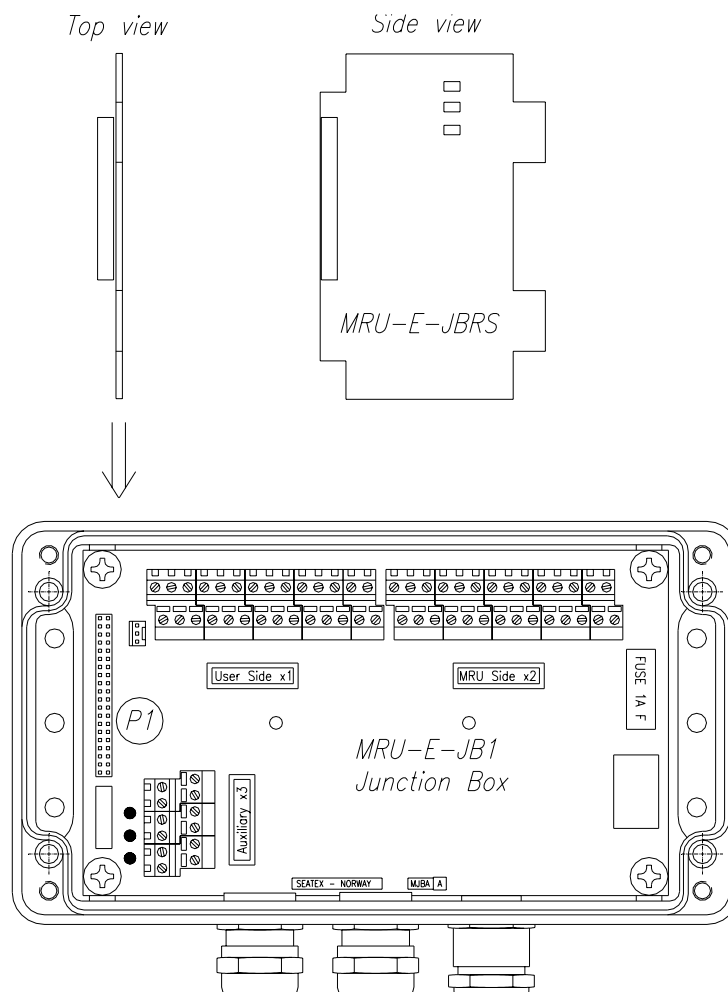

Figure 14 Installation of the additional board in the MRU junction box
2. Unscrew the cover of the junction box and insert the additional board from above into the connector on position P1 in the junction box main board, as shown in Figure 14. Insert the delivered foam strip inside the box cover in such a way that it pushes on to the top wings of the additional board. This to ensure the positioning and vibration damping of the board.